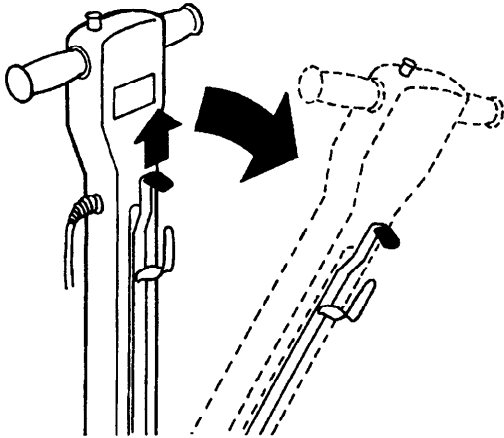

FIG. 4.
2. Release handle from upright position: Lift handle release lever and lower handle (Fig. 4).